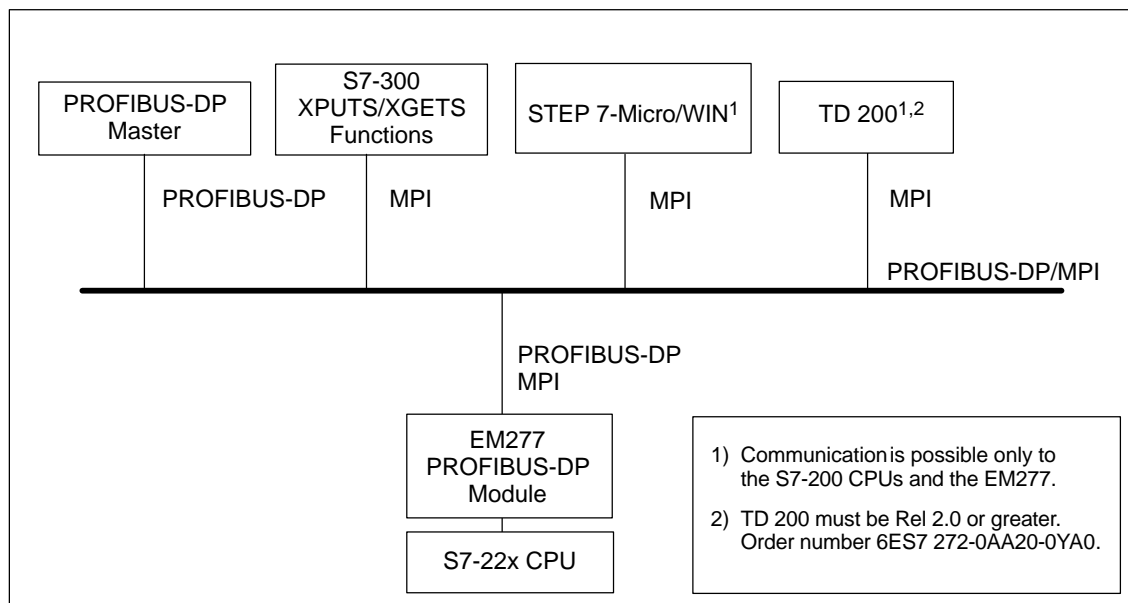

Figure A-31 PROFIBUS-DP/MPI Network
A maximum of six connections (six devices) in addition to the DP master can be connected to the EM 277 PROFIBUS-DP module. One connection is reserved for a programming device (PG) and one is reserved for an operator panel (OP). The other four connections can be used by any MPI master. In order for the EM 277 PROFIBUS-DP module to communicate with multiple masters, all masters must be operating at the same baud rate. See Figure A-31 for one possible network configuration.
Figure A-31 shows the PROFIBUS-DP MPI Network.